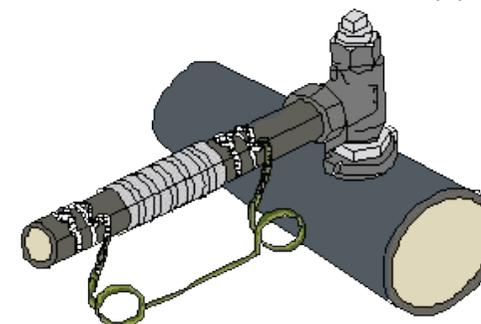

Figure 25 - Typical installation of Temporary Continuity Bond.
- If an MP service is encountered with a Top Tee assembly, as shown in Figure 25, proceed with caution as the integral plug may have been removed.
Note: The correct type of continuity bond must be selected prior to the work beginning, ensuring that the correct type clamp is used and is properly attached to the pipe (Figure 25).
2. A temporary continuity bond must be fitted to bridge across the section of pipe to be removed as per Figure 25.
3. Fit a temporary continuity bond to bridge across the section of pipe to be removed as per Figure 25, and in accordance with Section 14.6.